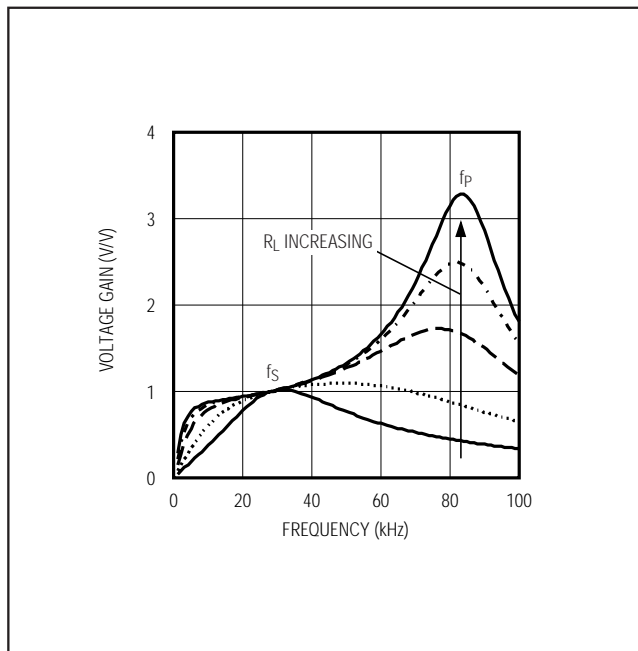

Figure 5. Frequency Response of the Resonant Tank
Figure 5 shows the frequency response of the resonant tank's voltage gain under different load conditions. The primary series capacitor is 1 $\mu$ F, the secondary parallel capacitor is 15pF, the transformer turns ratio is 1:93, and the secondary leakage inductance is 260mH. Notice that there are two peaks,  $f_s$  and  $f_p$ , in the frequency response. The first peak,  $f_s$ , is the series resonant peak determined by the secondary leakage inductance (L) and the series capacitor reflected to the secondary (C's):